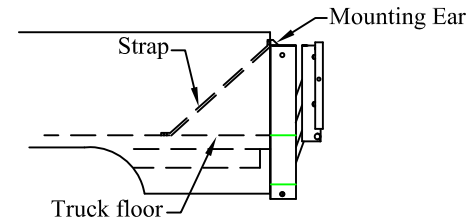

Figure 11: Upper mount option #4.
2. **Attach** the uprights to the truck using the mounting ears and straps (Figure 11).